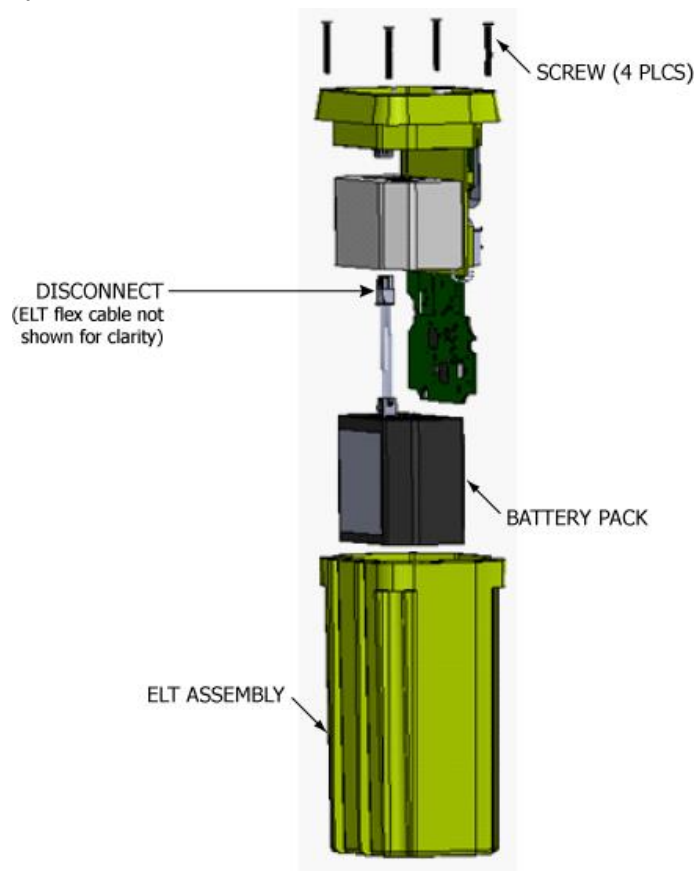

Figure 10 Battery Pack Removal
1) See Figure 10 Battery Pack Removal.